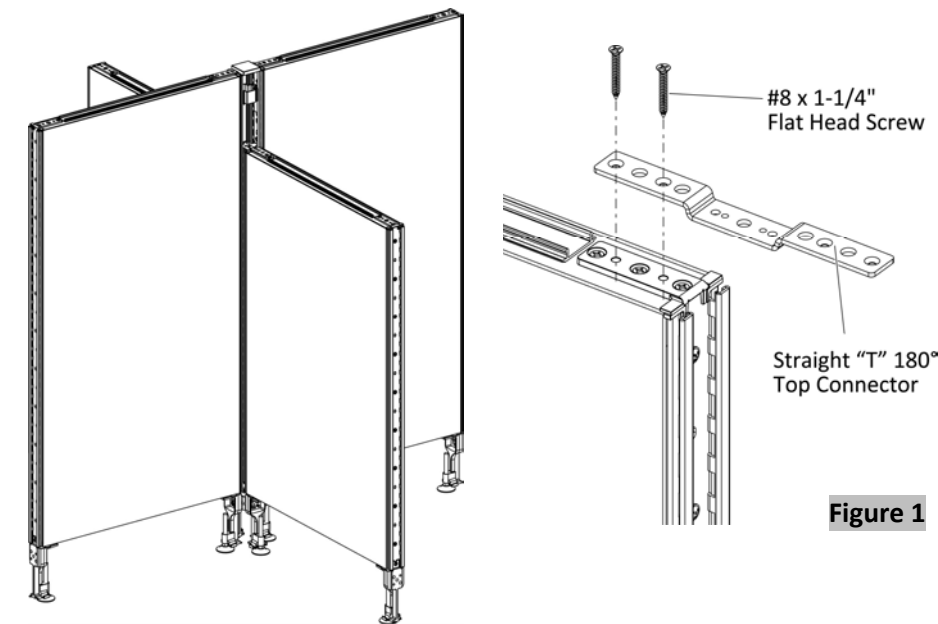

Figure 1
- 1. Position straight "T" 180° top connector on top edge of one of the short panels, (Figure 1).